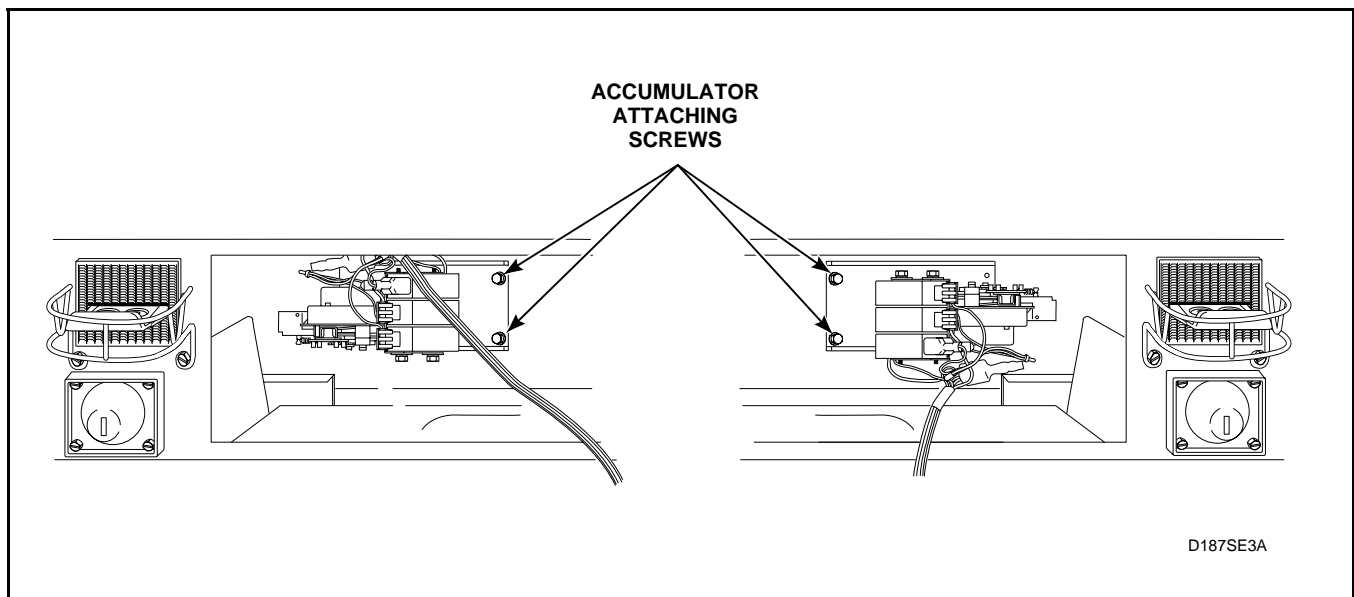

Figure 20
- f. Reach in through control panel opening and remove screws holding accumulator and mounting bracket to the control cabinet. See *Figure 20*.
- h. Remove two screws holding accumulator to mounting bracket. See *Figure 20*.